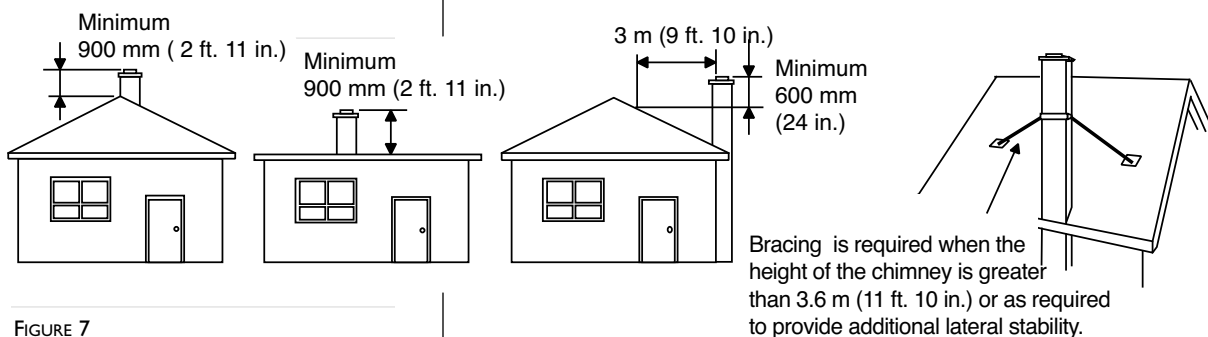

FIGURE 7
- ◆ Ensure that chimney projection above the roof line meets NBC minimums (see Figure 7).